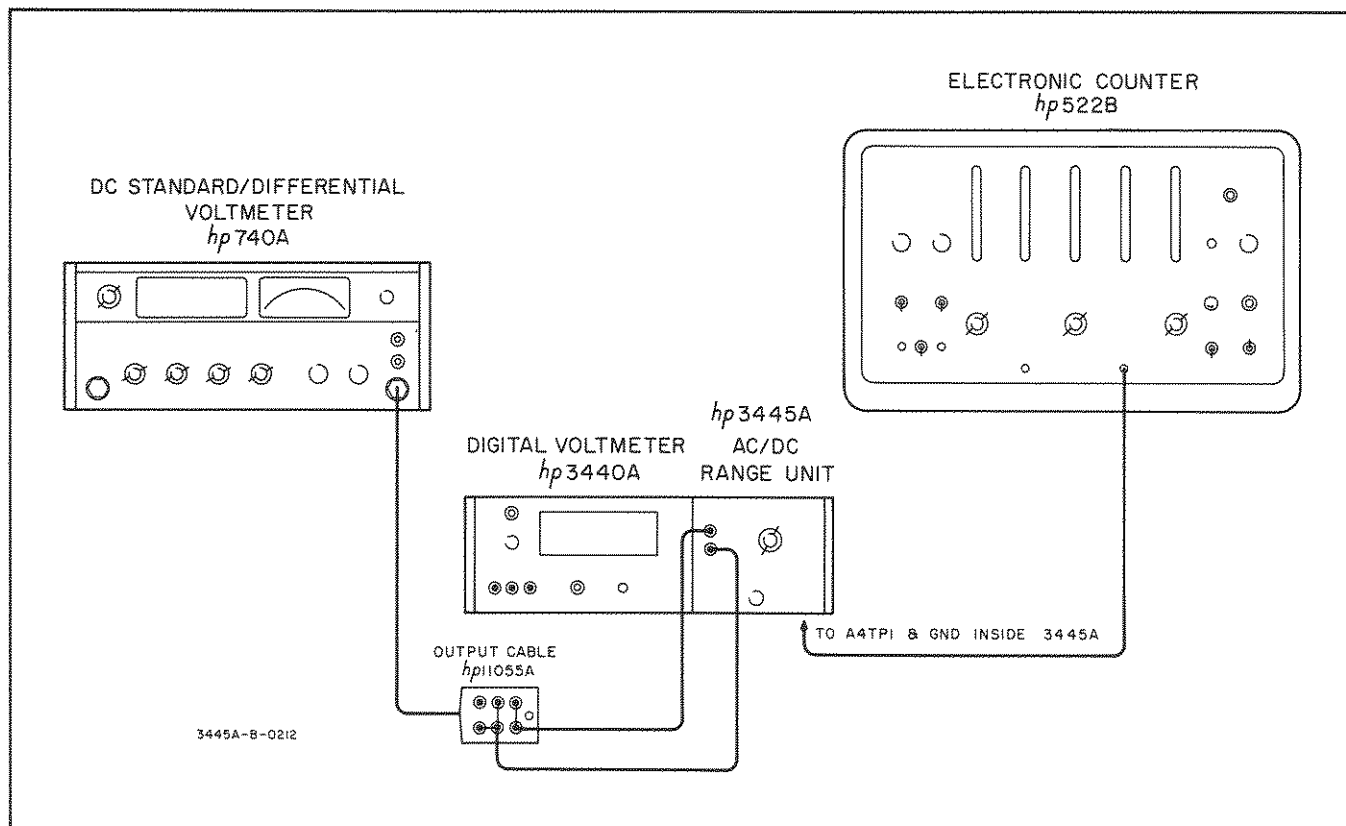

Figure 5-4. Hysteresis Adjustment
- Figure 5-4 describes the test arrangement recommended for this operation. An Elec-
- Connect the Model 3440A/3445A as shown in Figure 5-4.